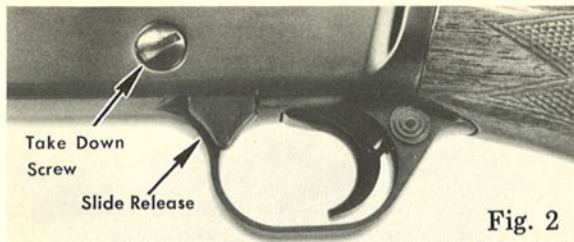

Fig. 2
A slide release, conveniently located on the forward portion of the trigger guard (Fig. 2), allows you to operate the action without depressing the trigger. Simply push forward on the release and draw the forearm rearward. This allows you to safely open the action for inspection, cleaning and safe loading and unloading.
2) Remove the receiver take-down screw. (See Fig. 2)